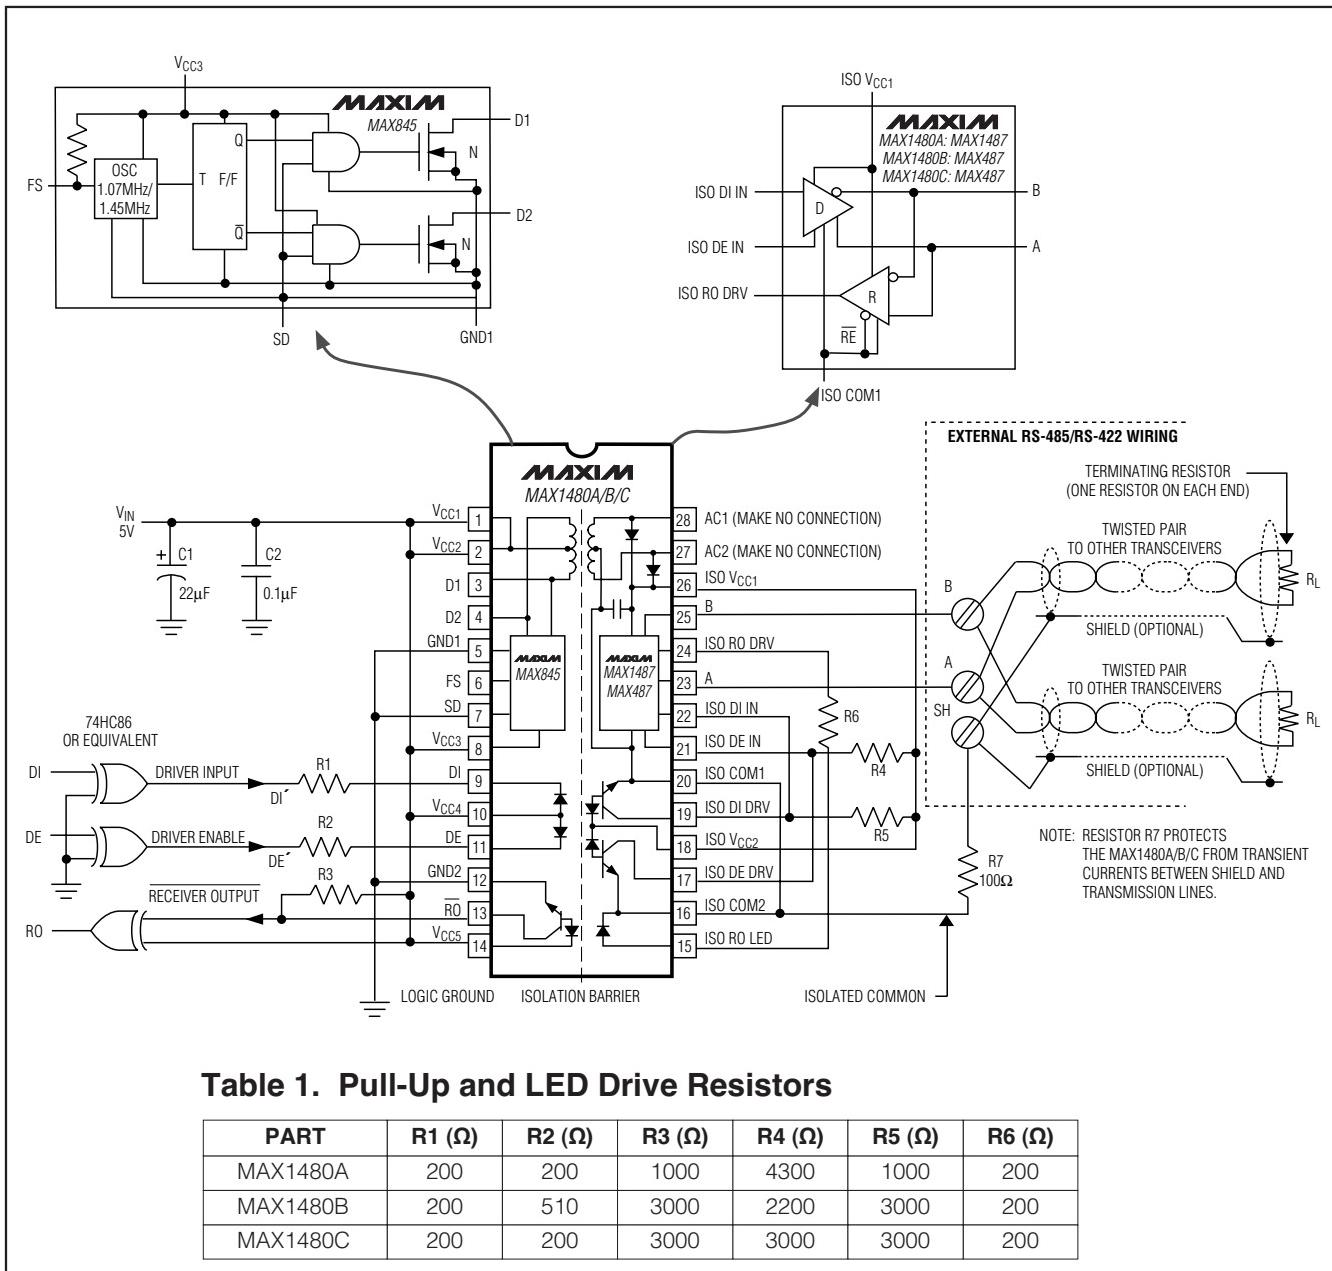
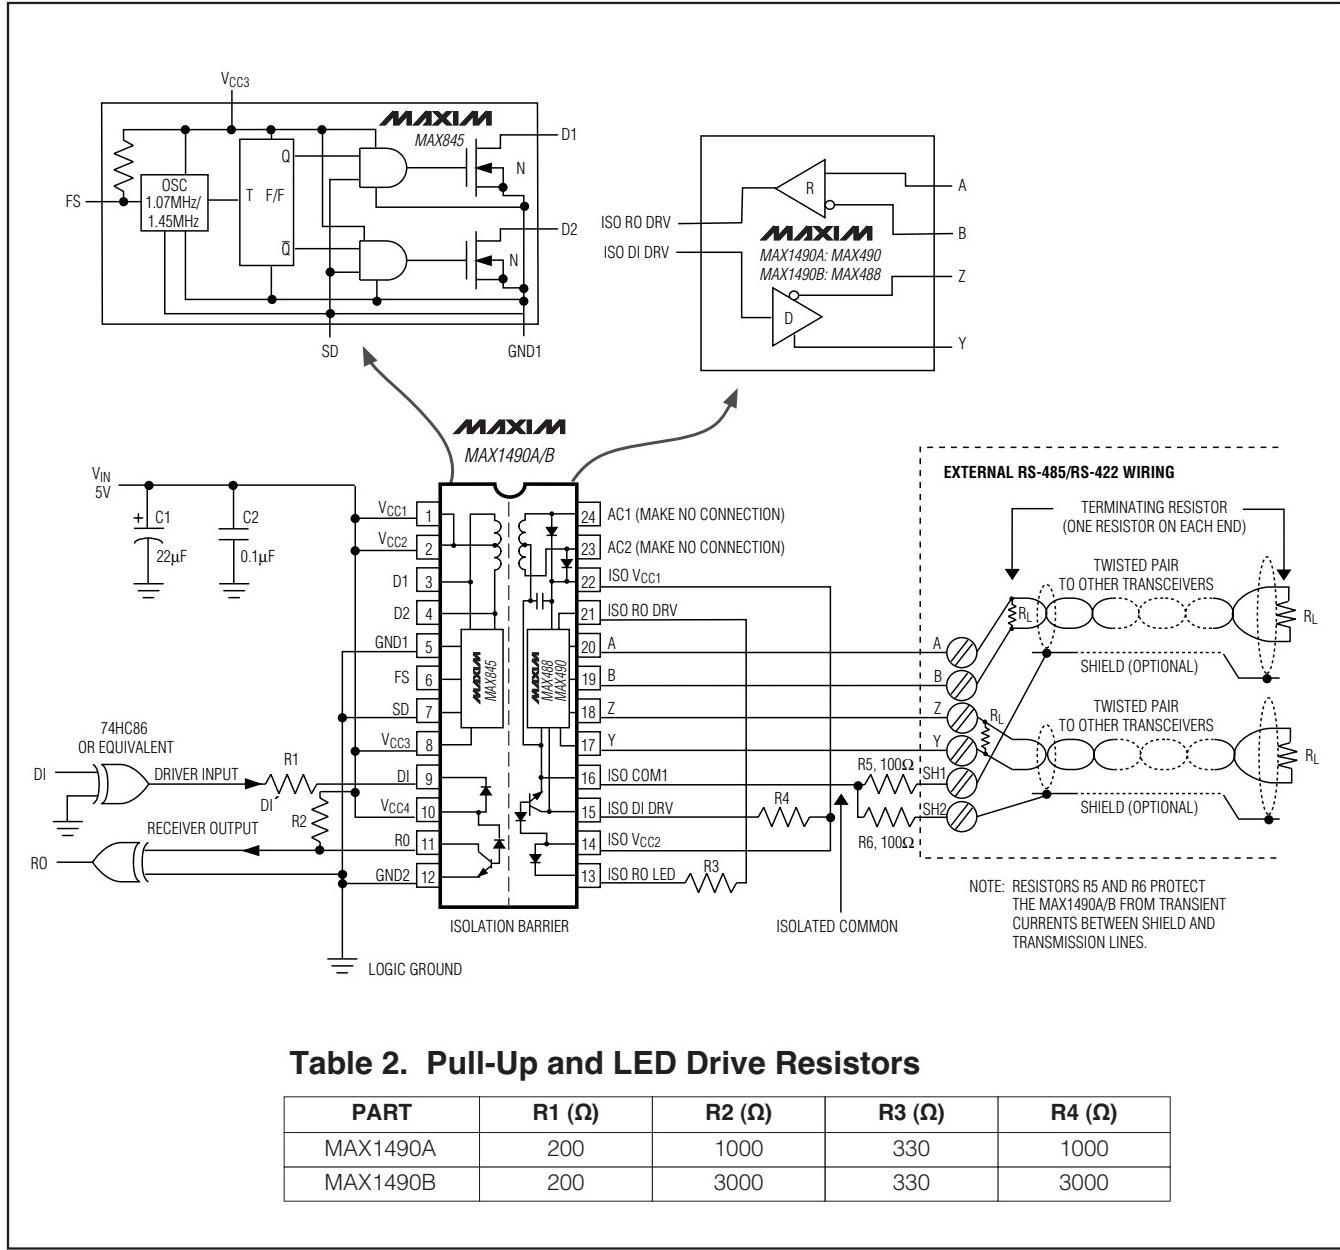

Figure 1. MAX1480A/MAX1480B/MAX1480C Detailed Block Diagram and Typical Application Circuit
Figure 2. MAX1490A/MAX1490B Detailed Block Diagram and Typical Application Circuit
Note: For DE' and DI' pin descriptions, see *Detailed Block Diagram and Typical Application Circuit* (Figure 1 for MAX1480A/B/C, Figure 2 for MAX1490A/B).
The MAX1480A/MAX1480B/MAX1480C/MAX1490A/MAX1490B are complete, electrically isolated, RS-485/RS-422 data-communications interface solutions. Transceivers, optocouplers, a power driver, and a transformer in one standard 28-pin DIP package (24-pin for the MAX1490A/B) provide a complete interface. Signals and power are internally transported across the isolation barrier (Figures 1, 2). Power is transferred from the logic side (nonisolated side) to the isolated side of the barrier through a center-tapped transformer. Signals cross the barrier through high-speed optocouplers. A single +5V supply on the logic side powers both sides of the interface. The MAX1480A/B/C offer half-duplex communications while the MAX1490A/B feature full-duplex communication. The functional input/output relationships are shown in Tables 3–6.
* For DE' and DI' pin descriptions, see Detailed Block Diagram and Typical Application Circuit (Figure 1 for MAX1480A/B/C, Figure 2 for MAX1490A/B).
The MAX1480A/MAX1480B/MAX1480C/MAX1490A/MAX1490B are specified and characterized using the resistor values shown in Table 1 of Figure 1 and Table 2 of Figure 2. Altering the recommended values can degrade performance.
The isolated common may be completely floating with respect to the logic ground and the effective network ground. The receiver input resistors will cause the isolated common voltage to go to the mean voltage of the receiver inputs. If using shielded cable, connect the isolated common to the shield through a 100Ω resistor. In the case of the MAX1490, each shield should have its own 100Ω resistor (Figures 1, 2, 13, and 14).